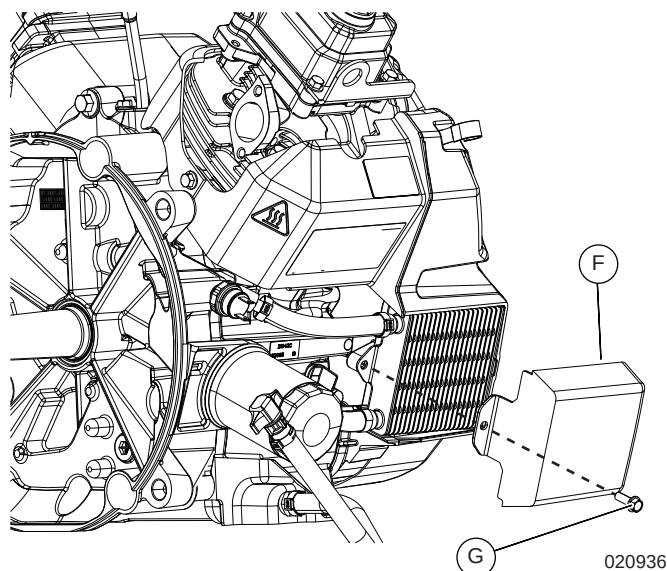

Figure 12-25. Install Cooler Cover
5. See Figure 12-25. Install new stepless ear clamps (E) to secure hoses to barbed fittings.